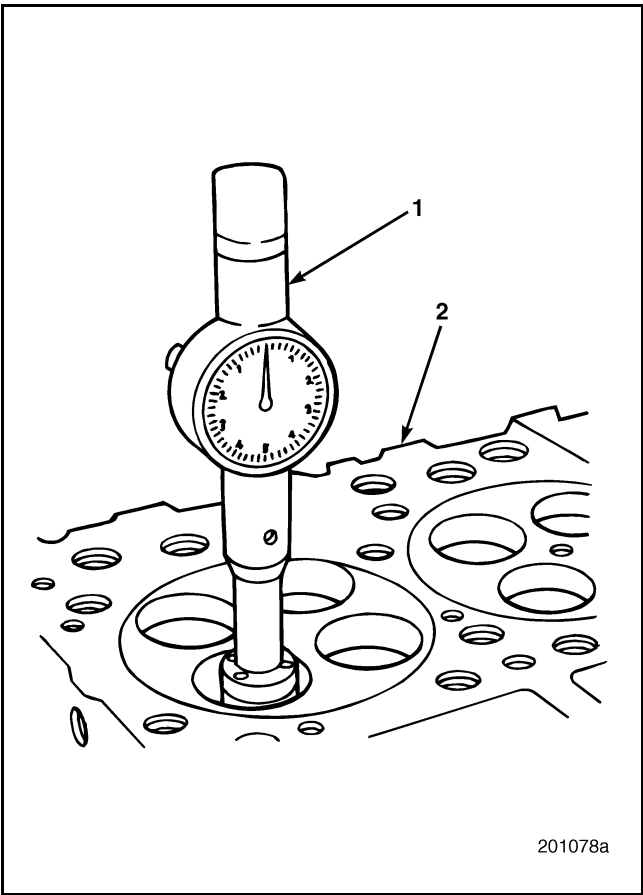

Figure 265 — Checking Counterbore Dimensions
- Check the surface finish for smoothness. Check the counterbore diameter (Figure 265) with an inside diameter micrometer. Compare the measured diameter to specification.